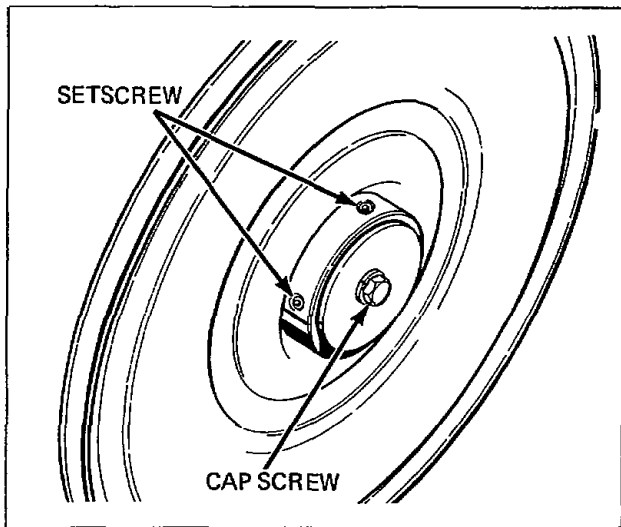

Figure 35
37. PULLEY AND HUB ASSEMBLY (Refer to Figure 35)